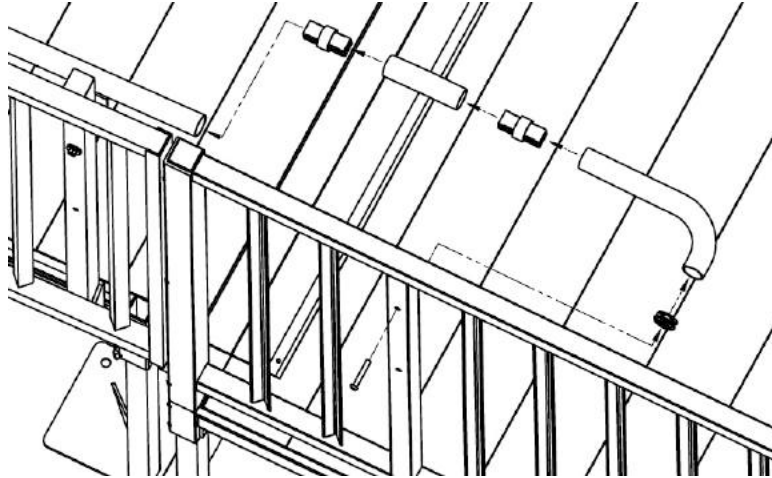

FIG. 41
- 8.4 At a turn platform on the outside, non-turn side (both where the top of a ramp meets a platform and where a ramp starts at a platform) as shown in FIG. 41: